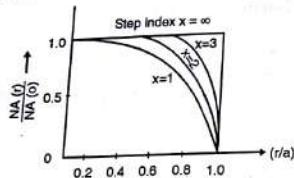

Fig. 5.7.1 : Comparison of the NA for fibres having various (r/a) profile
- From Equation (5.7.1) it is evident that for a graded index fibre NA decreases from axial numerical aperture $NA(0)$ to zero as r increases from zero to core radius a . Fig. 5.7.1 represents NA for graded index fibre for various (r/a) profile.